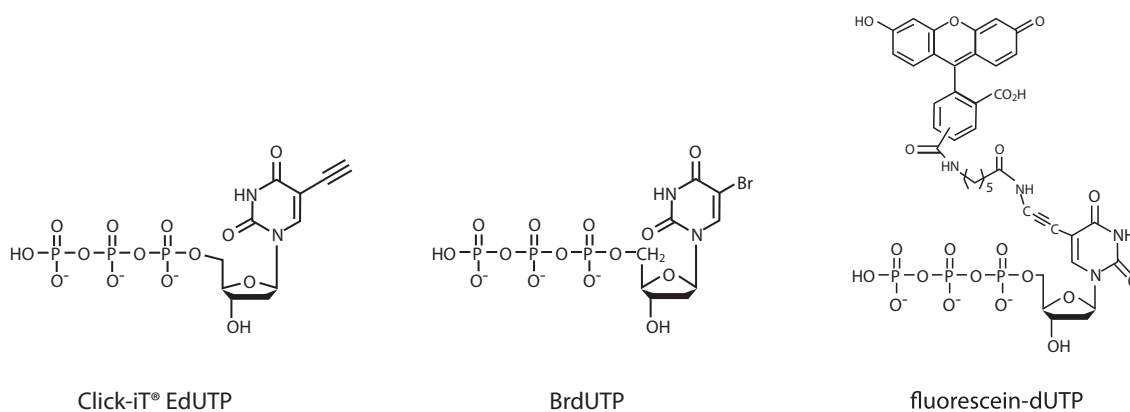
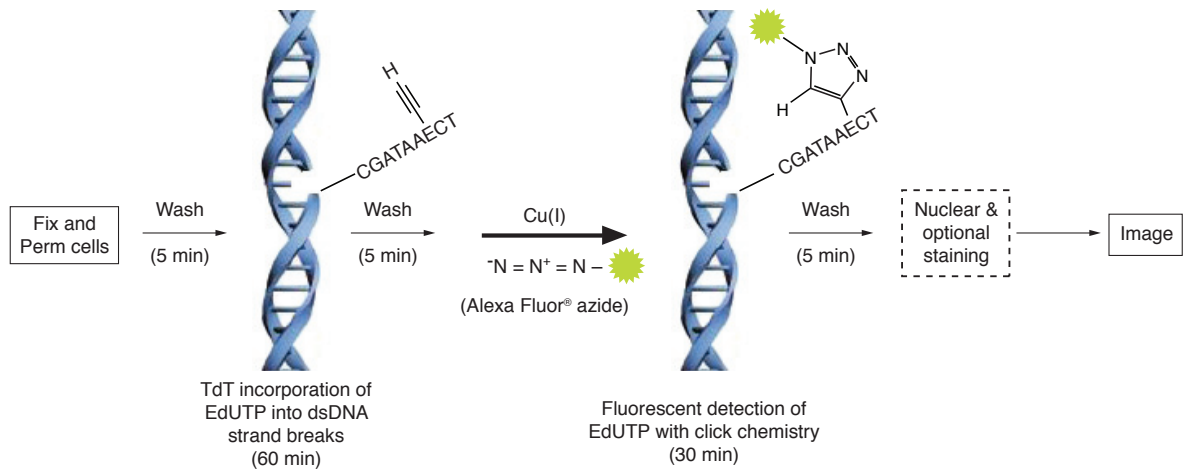

Figure 1. Modified nucleotide structures. The alkyne and bromine modifications are significantly smaller than fluorescein.
Figure 3. Detection of apoptosis with the Click-iT® TUNEL imaging assay.
The Click-iT® TUNEL Alexa Fluor® imaging assays utilize a dUTP modified with an alkyne, a small, bio-orthogonal functional group that enables the nucleotide to be more readily incorporated by TdT than other modified nucleotides (Figures 1–2). Detection is based on a click reaction,^{3–6} a copper (I) catalyzed reaction between an azide and alkyne (Figure 3). Click chemistry fills the void when methods such as direct labeling or the use of antibodies are not efficient. The small size of the Alexa Fluor® azide (MW ~1,000) compared to that of an antibody (MW ~150,000) enables effortless penetration of complex samples with only mild fixation and permeabilization required. As a result, when compared to assays using other modified nucleotides, the Click-iT® TUNEL imaging assay is fast (complete within 2 hours) and is able to detect a higher percentage of apoptotic cells under identical conditions (Figures 4–5). Furthermore, the Click-iT® TUNEL assay allows multiplexing with surface and intracellular biomarker detection. (Table 2).